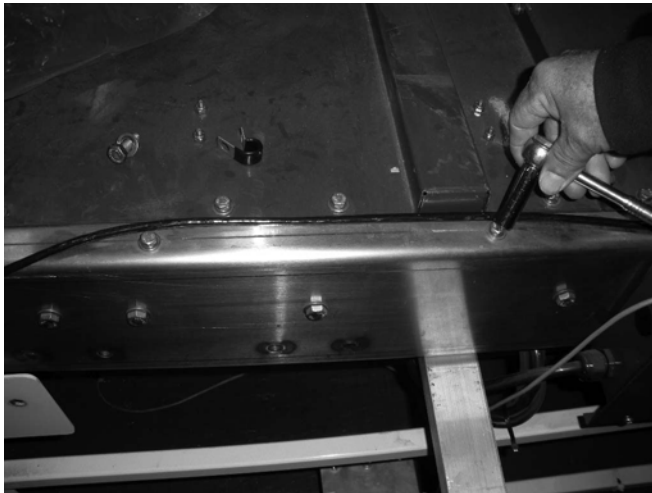

FIGURE 11: HARDWARE
16. Locate existing hex screw, lock washer and flat washer at top of enclosure, close to Pull Box then remove and retain hex screws as shown in **Figure 11**.